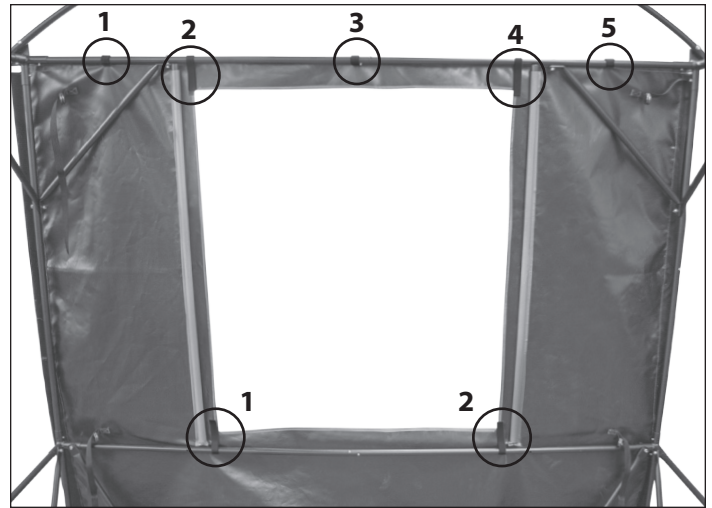
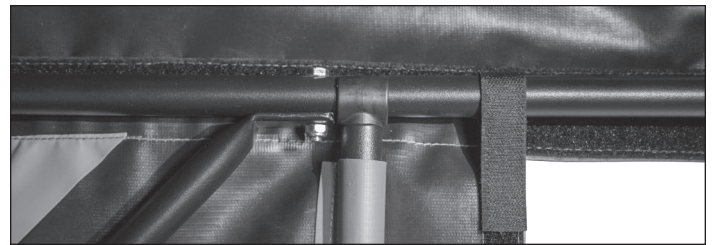

FIGURE 14
FIGURE 15
4. Hang the back wall panel (29) on the back side of assembled steel frame (opposite the door opening) by securing five Velcro loops located across the top of the back wall panel to the assembled A1 and B1 poles. Secure the two window Velcro loops to the assembled D1 and E1 poles as well. **SEE INSIDE BACK PANEL FIGURE AND FIGURE 14.**
5. Hang the two side wall panels (25) on the two sides of assembled steel frame by securing five Velcro loops located across the top of the side wall panels to the assembled H1 and I1 poles. Secure the two window Velcro loops to the assembled D1 and E1 poles as well. **SEE INSIDE SIDE PANEL FIGURE.**
6. Hang the right and left front wall panels (30 and 31) on the front side of assembled steel frame by securing two Velcro loops located across the top of each front panel to the assembled A1 and B1 poles. You will also need to secure the plastic C-clips found on each end of the previously assembled P1 and Q1 poles to the top and bottom of assembled steel frame. **SEE FIGURE 15.**